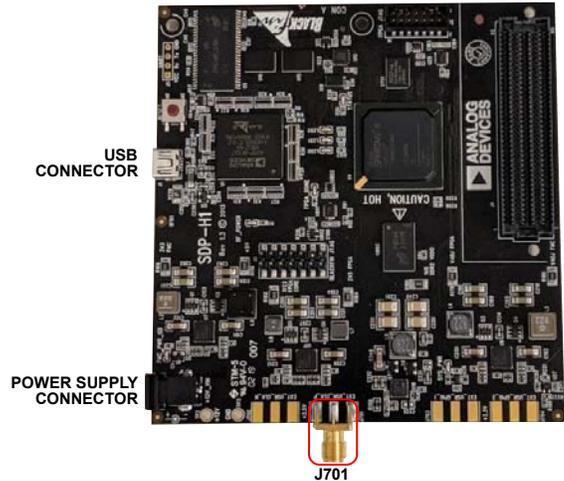

Figure 20. SDP-H1 Connectors
2. Solder or install an edge mount Subminiature Version A (SMA) connector at J701 on the SDP-H1 (circled in red in Figure 20).
3. Connect a 12 V dc power supply to the power supply connector outlet on the SDP-H1, as shown in Figure 20.
10. Connect a coaxial cable (shown in Figure 23) between one side of the SMA tee adapter and the J701 SMA port on the **SDP-H1** (see Figure 20).